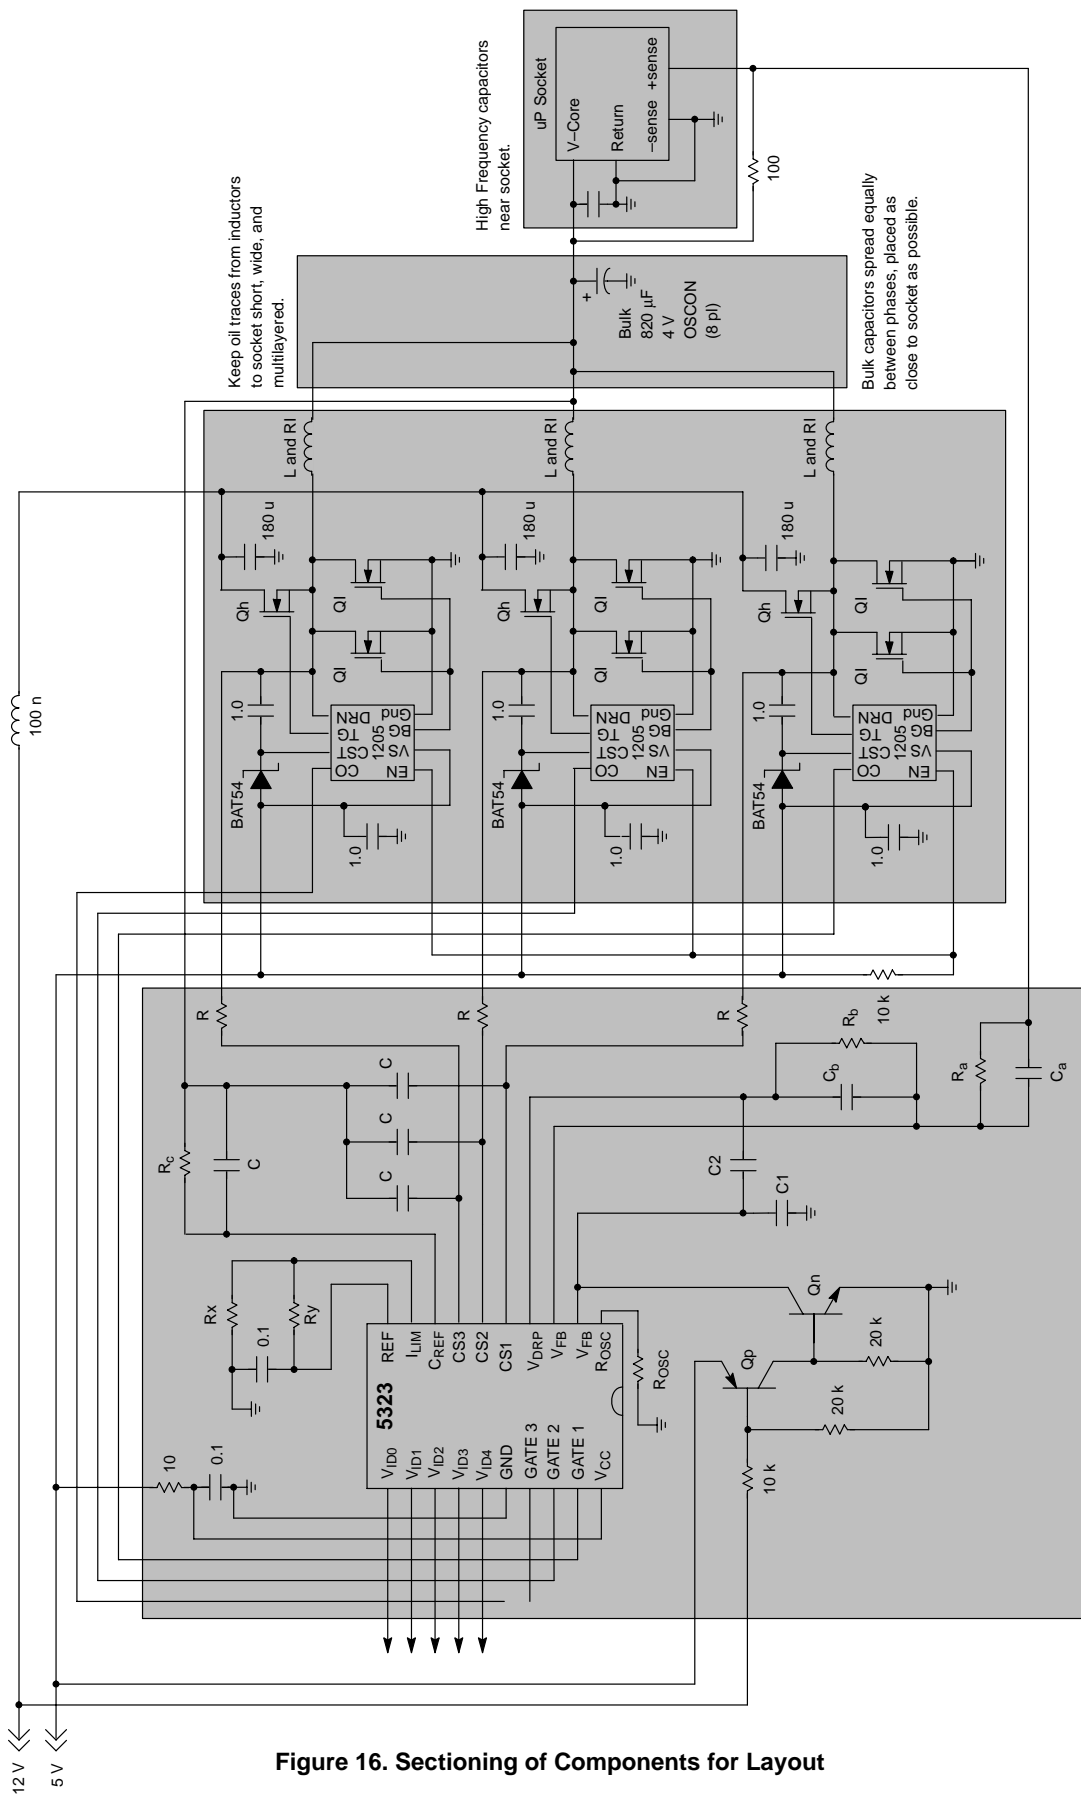

Figure 16. Sectioning of Components for Layout
2. All components associated with the controller should be mounted as close as possible to the controller with minimal trace lengths. Figure 16 details the components this refers to.